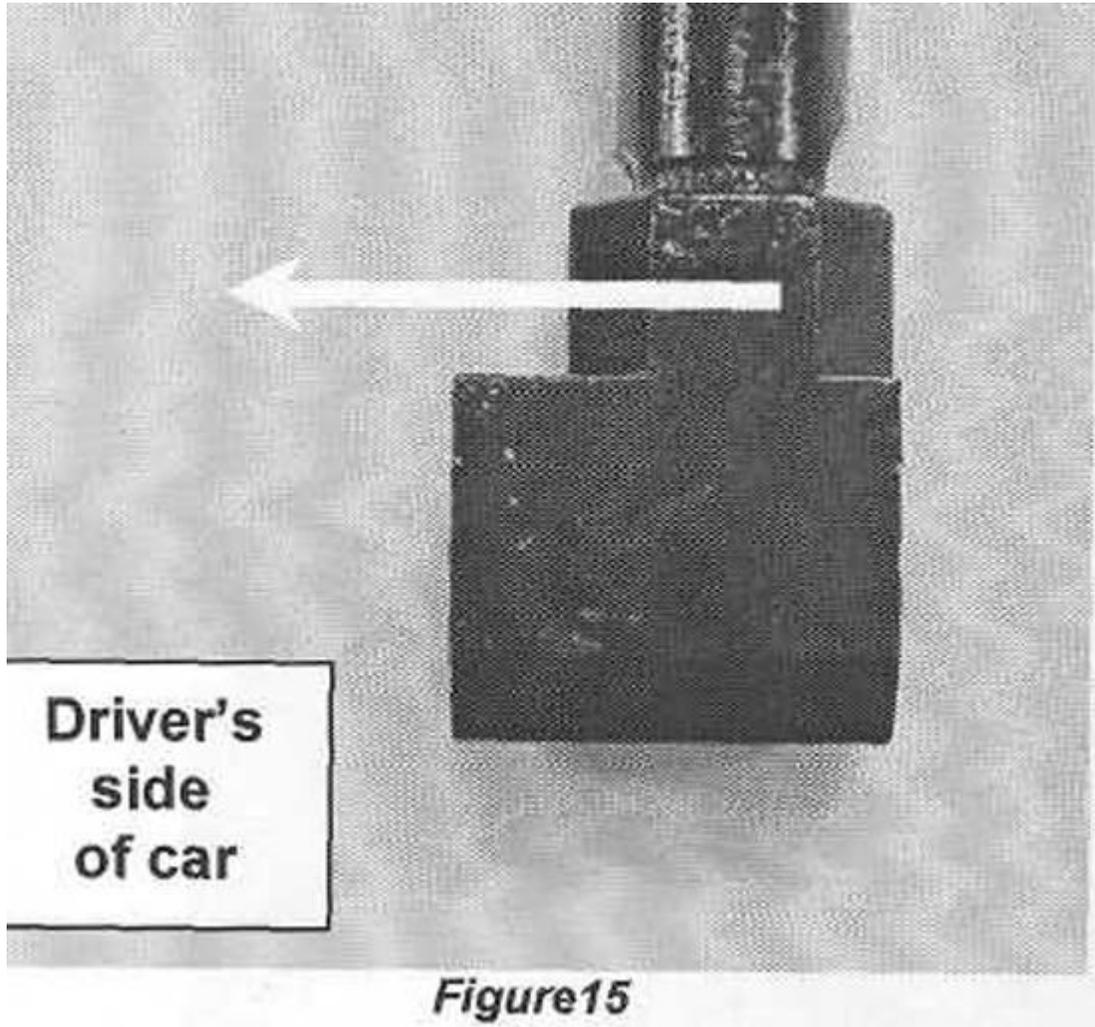

Figure 16
5. Insert the shift rod linkage through the bushings in shifter stick bottom. **Important: Offset (long side) of connector located on stick bottom should be positioned to the left (driver) side** (Refer to Figure 15). Fasten with hex nut previously removed and torque to 25Nm (18 Ib-ft) (Refer to Figure 16). **Note: We recommend using Loctite 242 or equivalent on the threads to prevent loosening.**